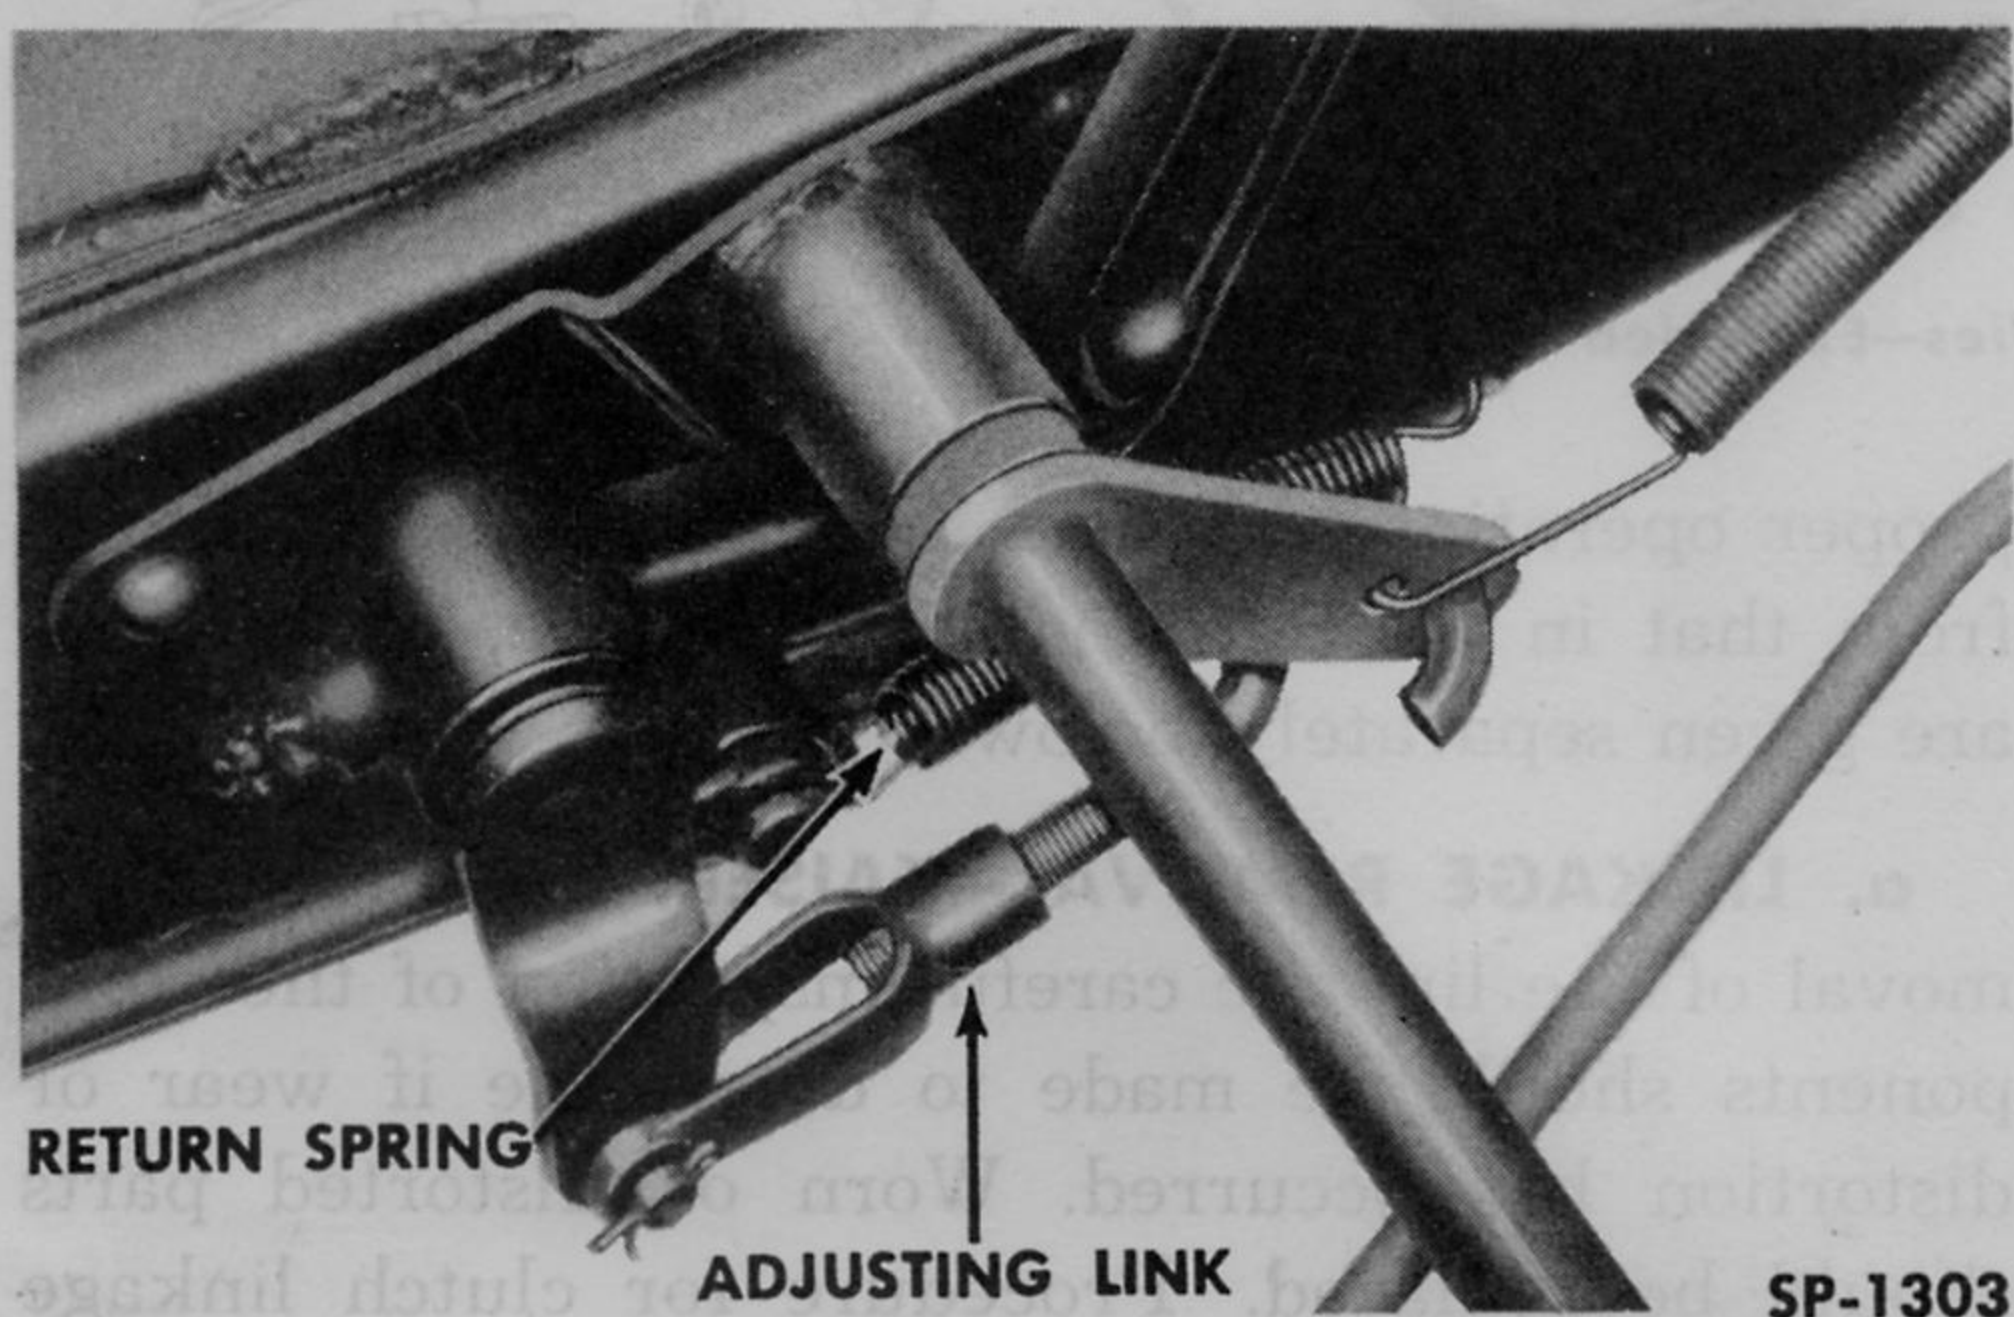

Fig. 167—Frazer Clutch Pedal Linkage Adjustment
(a) Release and remove the clutch pedal return spring (Fig. 167).
b. LINKAGE REMOVAL—FRAZER. During removal of the linkage, components should be carefully inspected for wear or distortion. Worn or distorted parts should be replaced. Clutch linkage removal procedure follows. (Refer to Fig. 167).